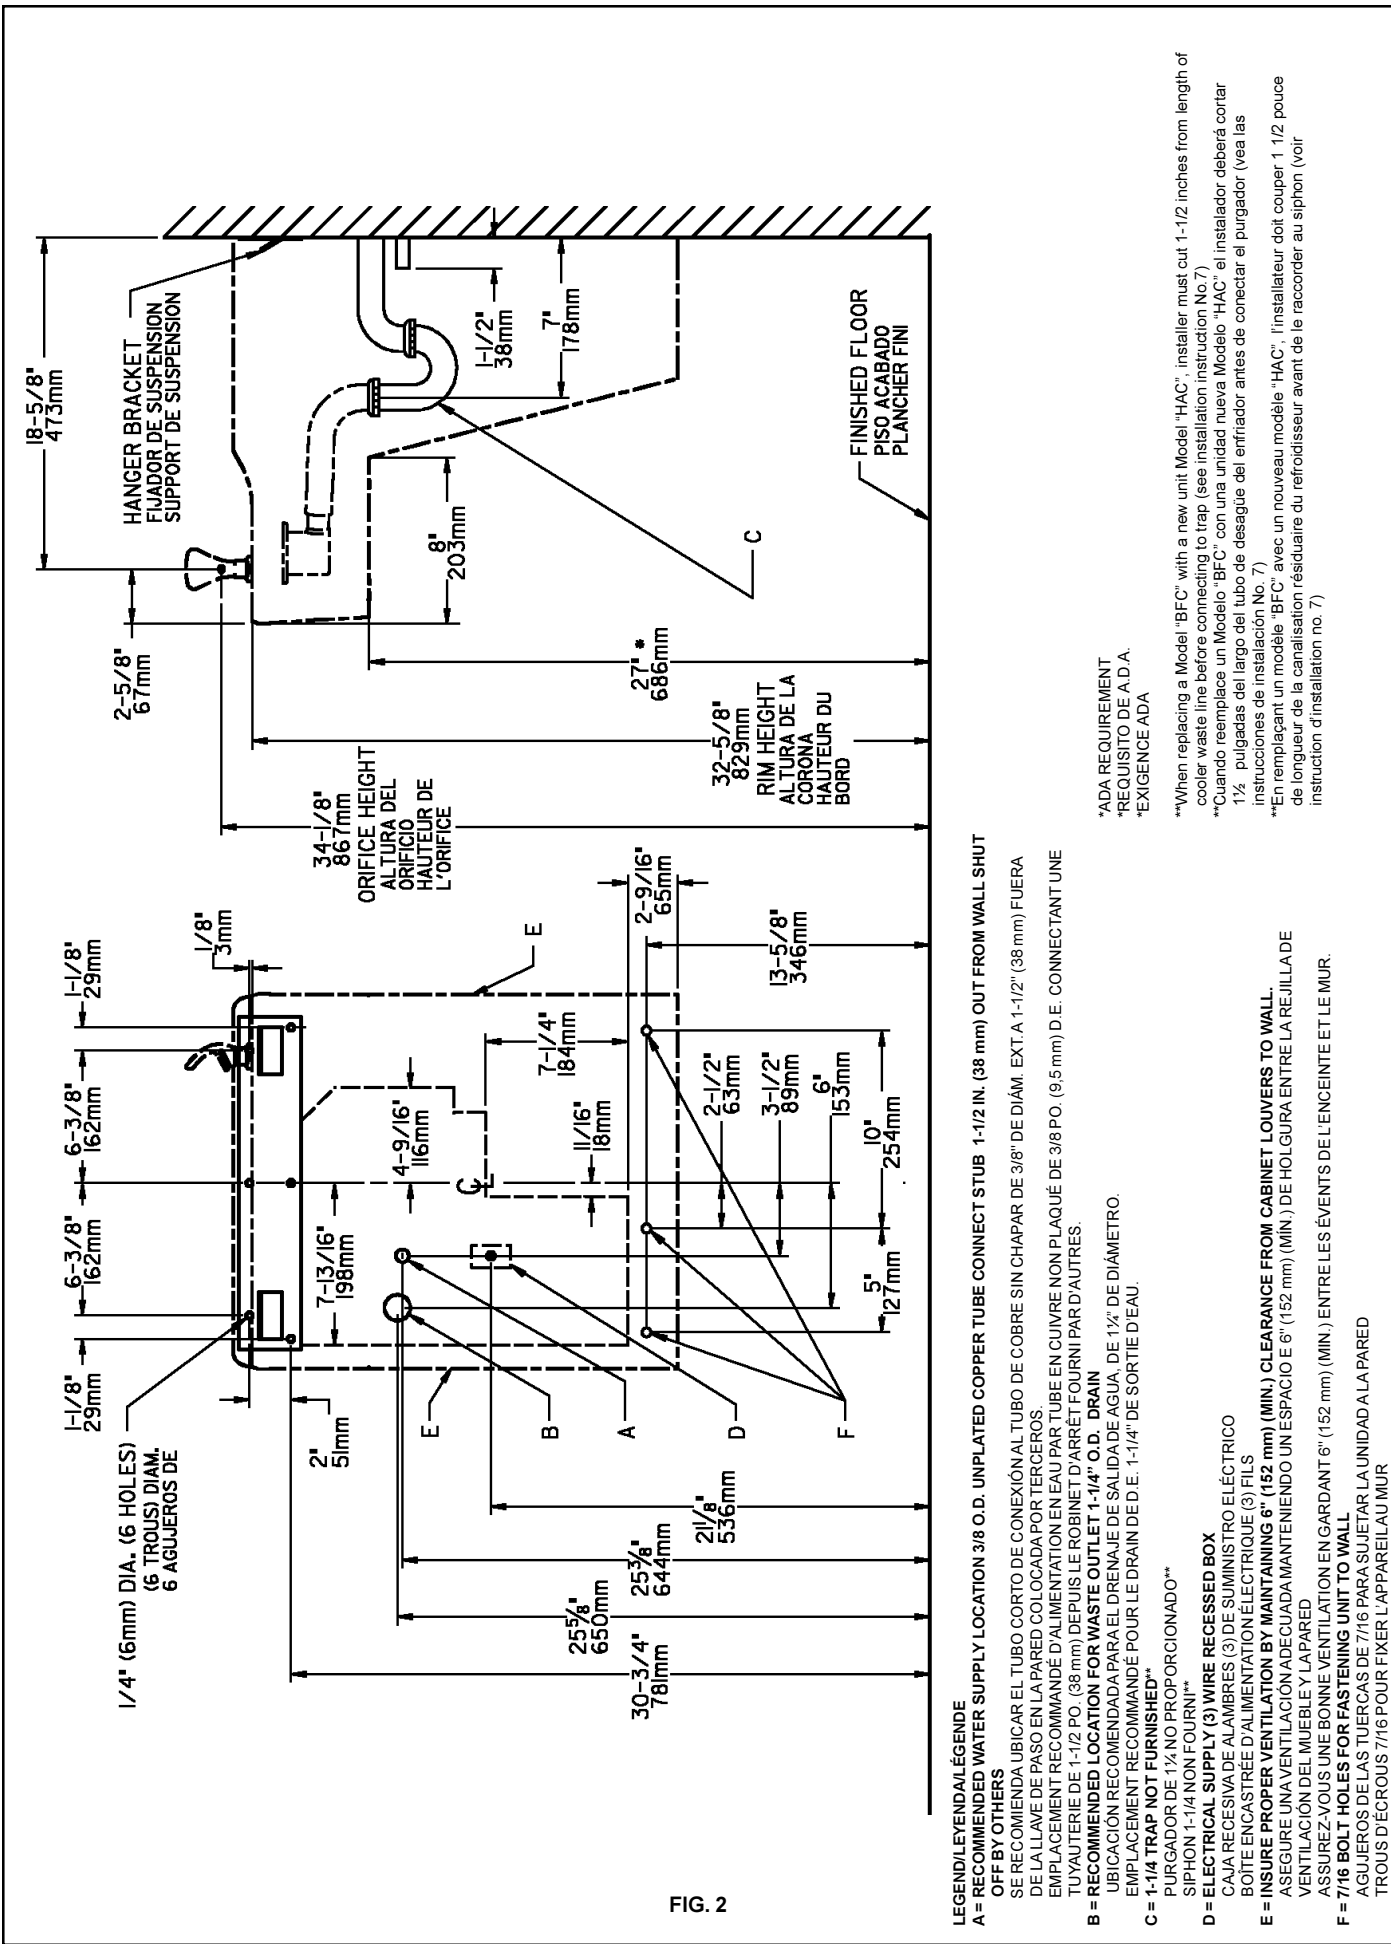

FIG. 2
- Remove hanger bracket fastened to back of cooler by removing one (1) screw.
- Mount the hanger bracket and trap as shown in Figure 2.